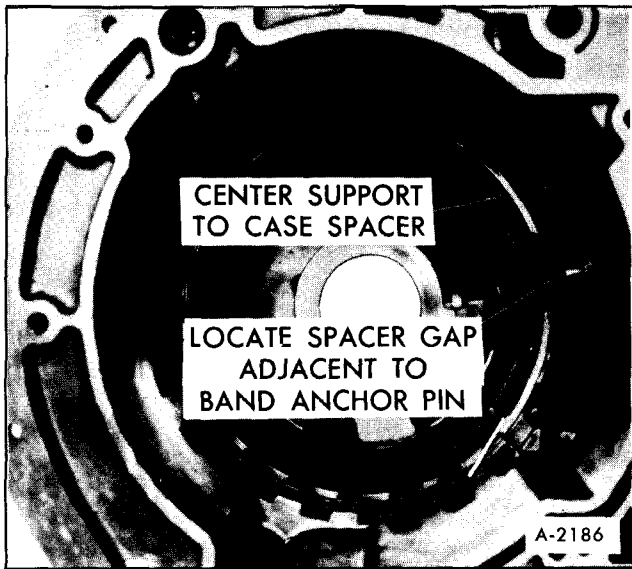

Figure 69—Installing Support-to-Case Spacer
4. Install the support case spacer against the shoulder at the bottom of case splines and the gap located adjacent to the band anchor pin, Figure 69.